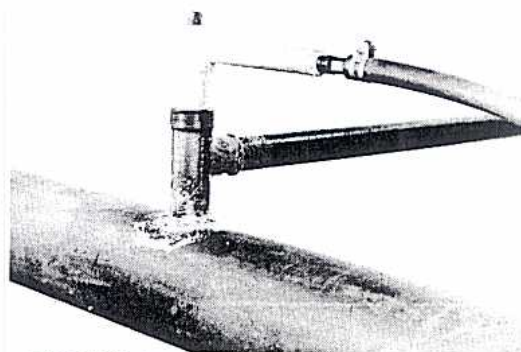

FIGURE 8
- 4a. The H-17618 Test Fitting may be used instead of the test cap. Screw the Test Fitting into the top of the Tee. The fitting has a handle and does not require a wrench. Attach air hose to one of the  $\frac{1}{4}$ " I.P. tapped openings and a gage or plug to the other  $\frac{3}{4}$ " tapped opening. FIGURE 8.